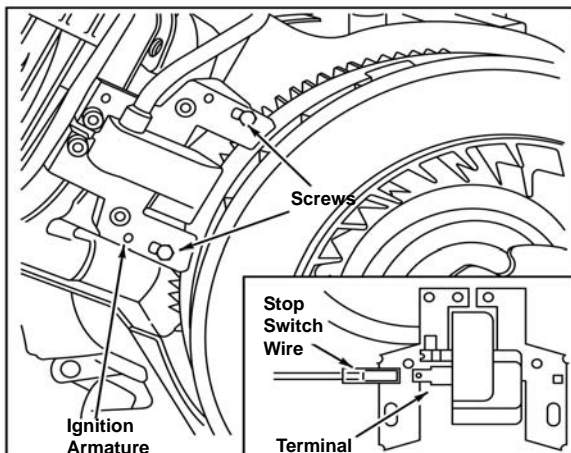

Figure 61 - Removing Ignition Armature, Typical
2. Remove armature screws, disconnect stop wire, and lift off armature, Figure 61.